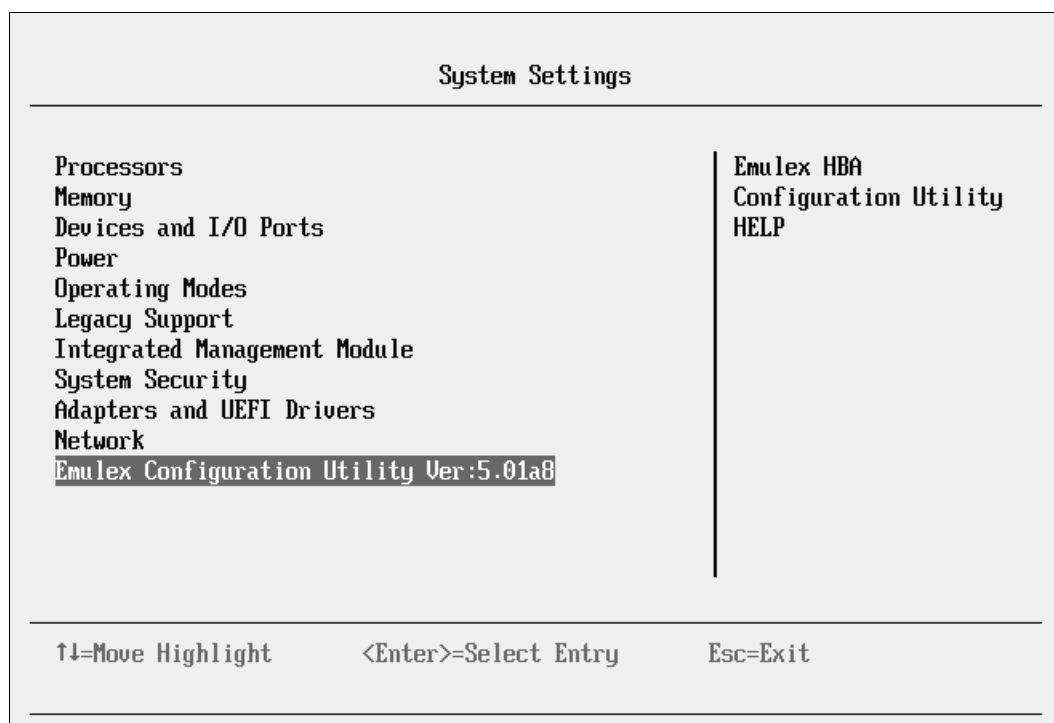

Figure 9-115 System Settings panel
3. In the System Settings panel (Figure 9-115), select **Emulex Configuration Utility Ver: x.xxxxx**.